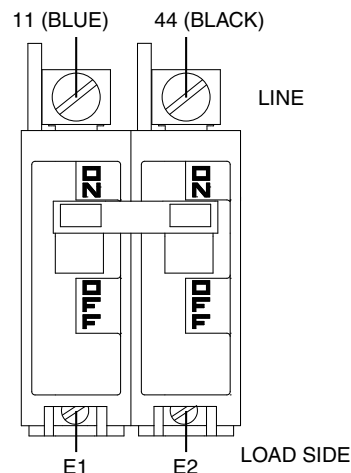

Figure 21. Generator Main Circuit Breaker Test Points
If you suspect the breaker may have failed, it can be tested as follows (see Figure 21):
- Connect meter test leads across Wire 11 and Wire 44 at the MLCB. Refer to Figure 21.